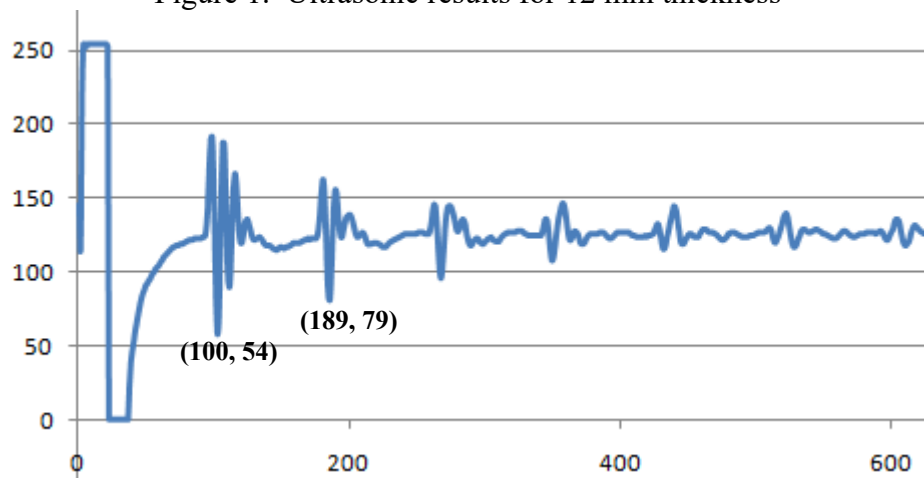

Figure 2. Ultrasonic results for unknown thickness
b) the thickness of the material in Figure 2, if same material was used.